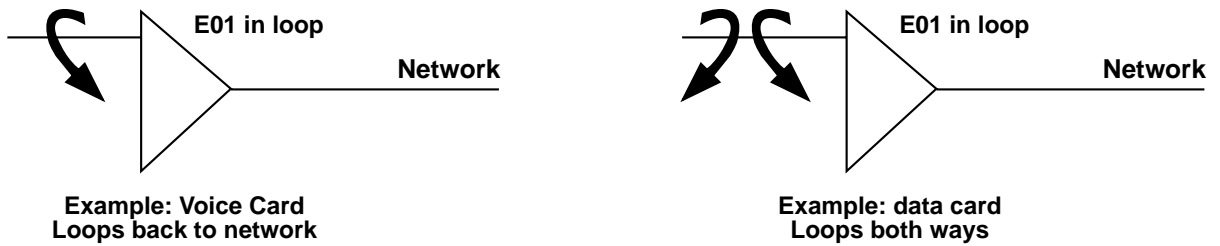

Fig. 8-12. Loopback Direction for Voice and Data Cards.
Since the high-speed data card can be configured for more than one time slot, any time slot in the set entered will result in the data card going into loopback. The display will indicate (Y) loopback on all channels in the set. See **Fig. 8-12** for loopback directions.